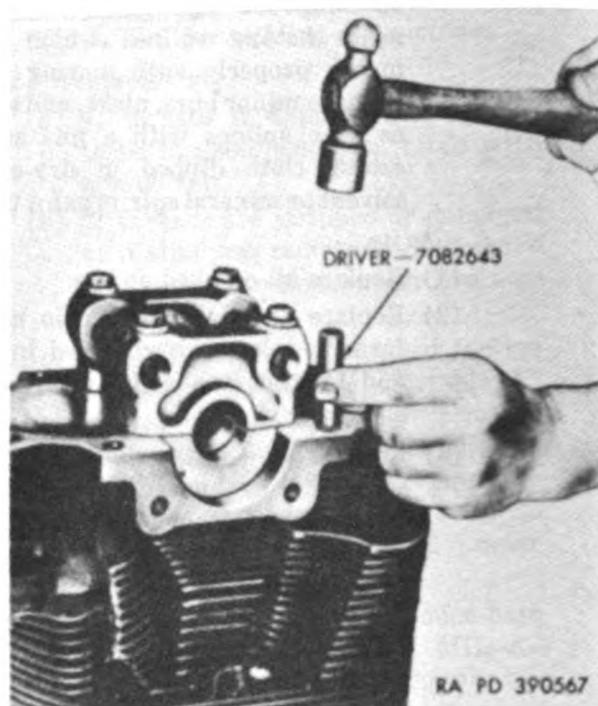

Figure 63. Installing Rosan insert lock ring.
- (c) Using proper size Rosan insert driver as shown in figure 63, drive lock ring into place until it is slightly below surface of casting.